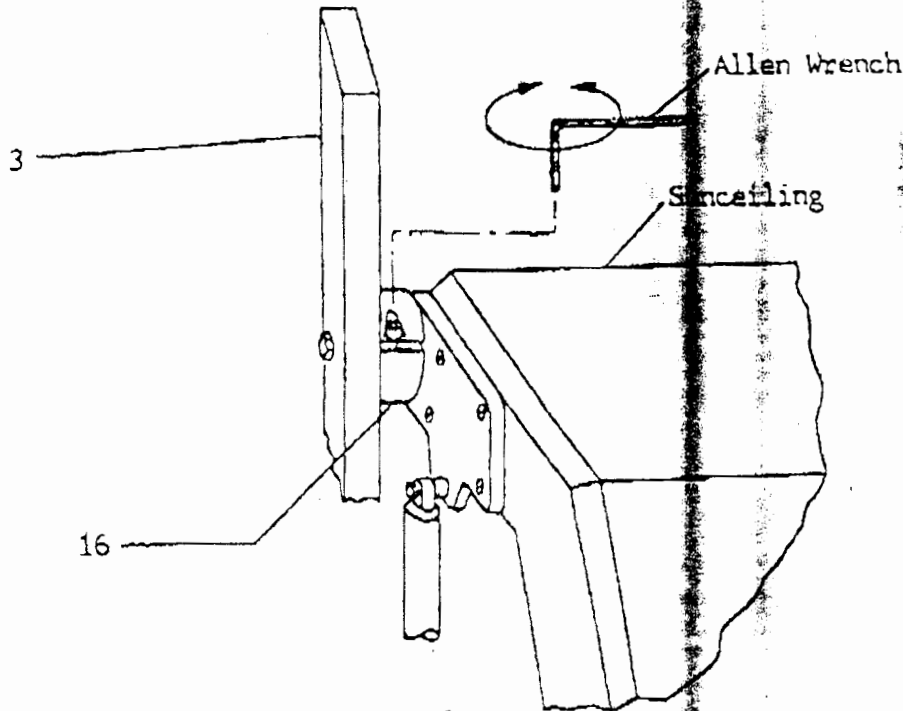

Figure No. 7
STEP 14. Apply grease to shoulder of bearing bolts as shown in figure No. 7. Raise the sunceiling until rod ends of gas piston cylinders (item 8) slide over the shoulders of the bearing bolts. Secure with washers (item 10) and locknuts (item 7). Tighten locknuts snugly and then back off 1/2 turn to allow piston to rotate.